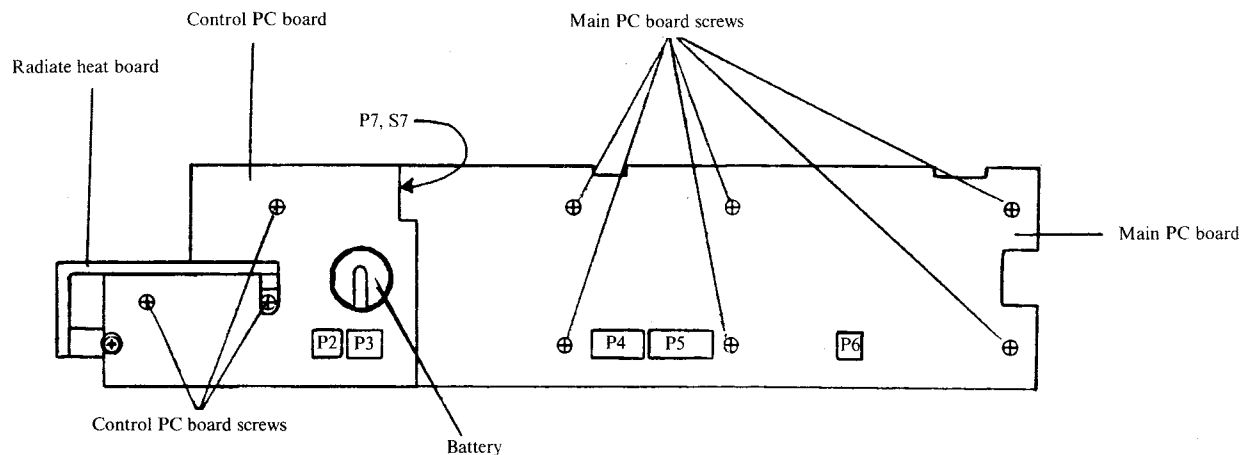

Figure 9-1
- ① Removing the Pattern case whole unit after removing the adapter.
- ② Disconnect all 5 of the connectors of the Control PC board and Main PC board (P2, P3, P4, P5, P6).
- ③ Removing the three screws of the Control PC board. (Figure 9-1)
- ④ Disconnect the Control PC board from the Main PC board as raise it horizontally. (Remove the P7 and S7)
- ⑤ Dissolve the solder on the lead of the battery with a solder iron, so remove the battery.